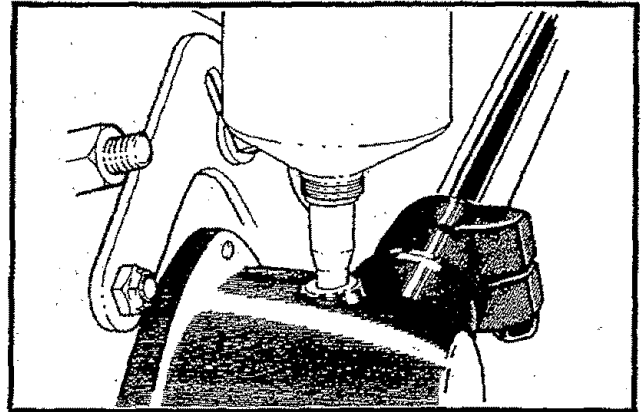

Figure 15
1. Remove the plug on the top of the gear box. Figure 15.